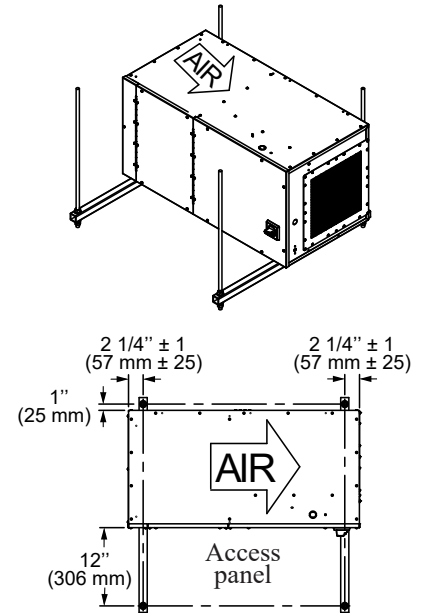

Figure 4
- 6- This heater is approved zero clearance but recommended to be installed according to the minimum clearances indicated (Figure 4) to keep access to side panel.
- 4- This heater is approved zero clearance but recommended to be installed according to the minimum clearances indicated (Figure 4) to keep access to side panel.